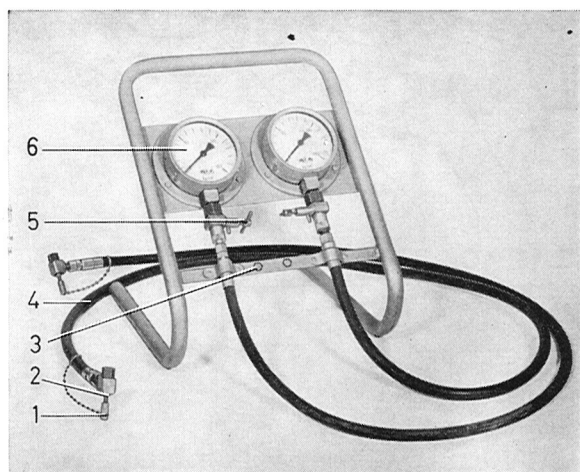

Fig. 5-2. Tester 2741
The tester 2741 (Fig. 5-2) is used, for example, to diagnose faults in the brake system.
2. Remove both the inside bleeder nipples at one of the front brake calipers and connect tester 2741 shown in Fig. 5-2. Nipple 2920 is also used for the ATE.